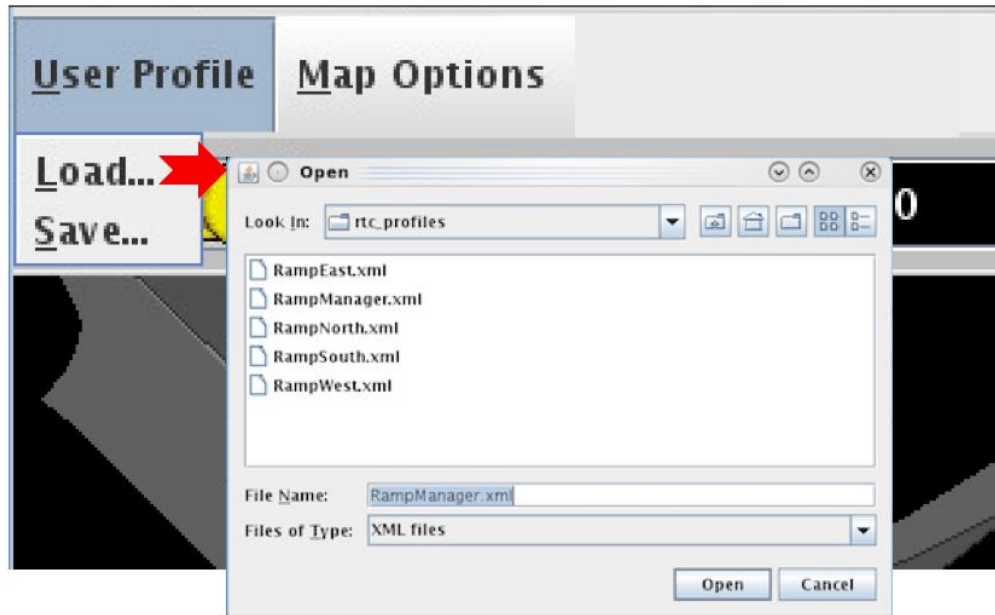

Figure 3.1. Load User Profile.
Step 1: Click on User Profile as shown in **Figure 3.1** below.